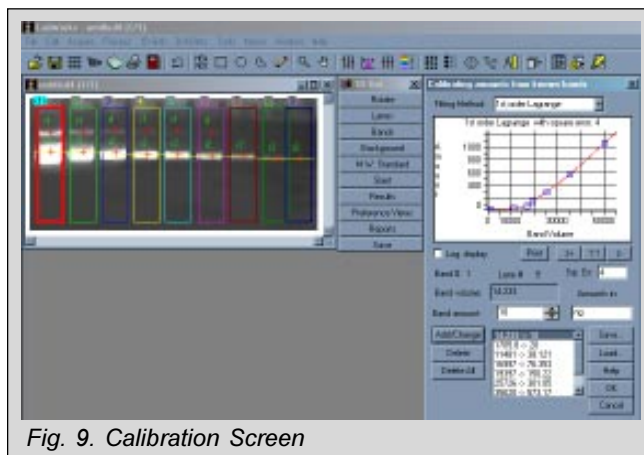

Fig. 9. Calibration Screen
- Click on the brightest band of interest in the gel image and then enter the value from the **printout** into the "Band Amount" in the calibration screen (Fig. 9). Click Add. Repeat this process, select a band and enter its value (concentration) until all of the known lanes have been calibrated (Fig. 10).